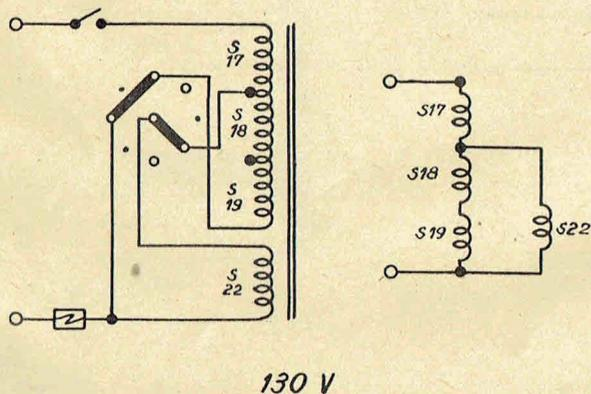

Fig. 8
**Position 130 Volts** (fig.8 )